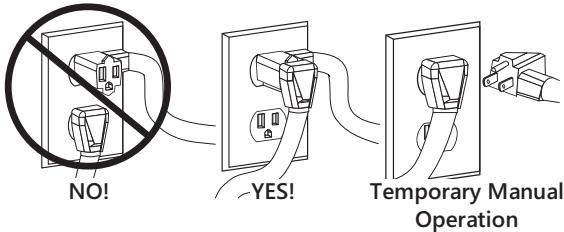

Figure 13. Piggyback Plug Installation
**All Pro370 and vertical discharge Pro380-Series models** come factory-equipped with the float switch mounted on the QuickTree assembly. These models come with two cords—one to the float switch and the other to the pump motor. The switch cord has a series (piggyback) plug enabling the pump (motor) cord to be plugged into the back of it (Figure 13). The purpose of this design is to allow manual operation of the pump.